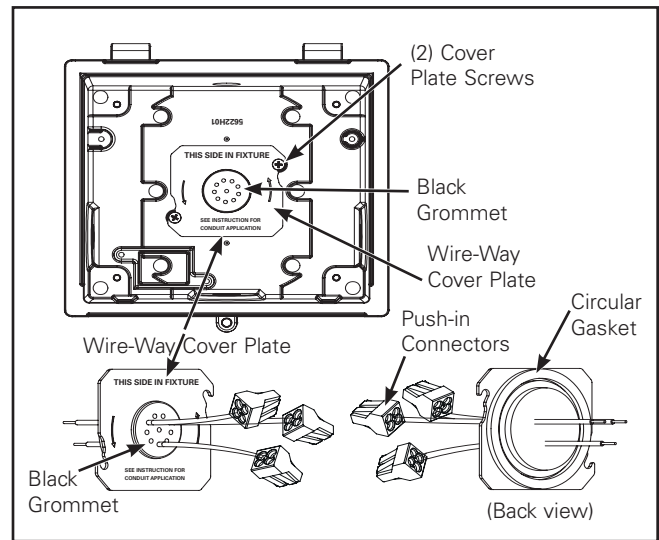

Figure 2.
3. Over Junction Box Wiring And Rear Entry Conduit Installation: Loosen But DO NOT remove two screws securing wire-way cover plate (Figure 2). Rotate wire-way cover plate counterclockwise and remove wire-way cover plate from opening. Do not remove the wire-way cover plate for thru-branch wiring.
4. Over Junction Box: Make supply wiring connections to the backside of the wire-way cover plate. Follow NEC guidelines for wet location wiring (wire nuts supplied by others). Ensure all wires are secured in the junction box and re-install wire-way cover plate by rotating clockwise into the screws. Tighten wire-way cover plate screws to 10 in-lbs. (Figure 2).
**Thru-Branch Conduit:** Remove the required 1/2" NPT conduit plug(s). Apply sealing compound or Teflon tape to liquid tight conduit fitting (supplied by others) entering back box to create water tight seal. DO NOT remove the wire-way cover plate (Figure 2). Remove wire leads from the wire way cover plate by gently pulling the wiring located in the black grommet toward you. DO NOT remove black grommet from the wire-way cover plate.
**Back Conduit Entry:** Remove the black grommet and wires from the wire-way cover plate (DO NOT remove circular gasket). Attach conduit to wire-way cover plate with watertight connector. Re-install wire-way cover plate by rotating clockwise into the screws. Tighten wire-way cover plate screws to 10 in-lbs. (Figure 2).